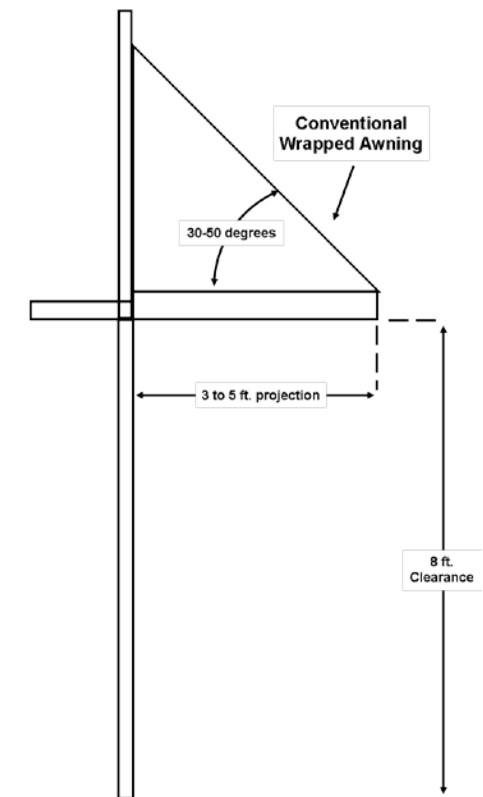

Figure 6
- D. **Awnings:** The preferred awning type for most buildings is the conventional “wrapped” awning, featuring closed ends. These awnings start at the top of a display window or transom and drop at a 30-50 degree angle to a point that is 3 to 5 feet from the building’s face. The awning must maintain a clearance height of 8 feet for safe pedestrian activity (see Figure 6). The same general type of awning, but with open ends is called a “shed” awning, is also an acceptable alternative. Other awning styles are reviewed on a case by case basis and approval thereof are based on compatibility with the architectural features of the building.